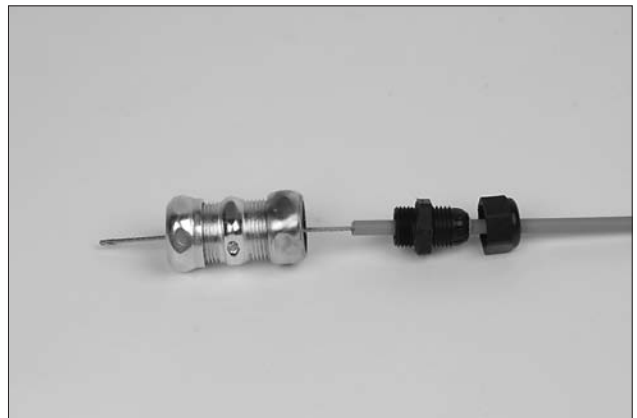

Figure 4-69.
3. Tighten compression union nut onto union body, locking flexible conduit insert in place. See **Figure 4-69**.